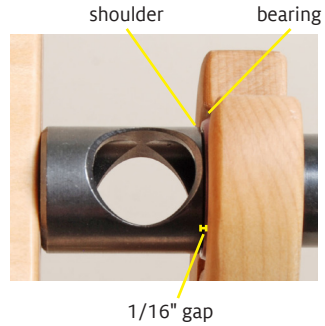

FIGURE 10: CHECK THE GAP
**12.** There should be a small gap (about 1/16") between the front bearing and the shoulder of the flyer shaft (Figure 10).